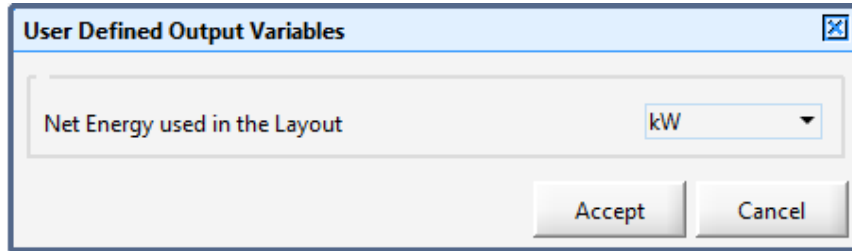

Figure 18-4 - User Defined Output Variables Menu
9. **Save the Layout and reload.** This will cause GPS-X to read in the output variable and create a menu for it under *Layout > General Data > User > Output Variables > User Defined Output Variables* as displayed in **Figure 18-4**.